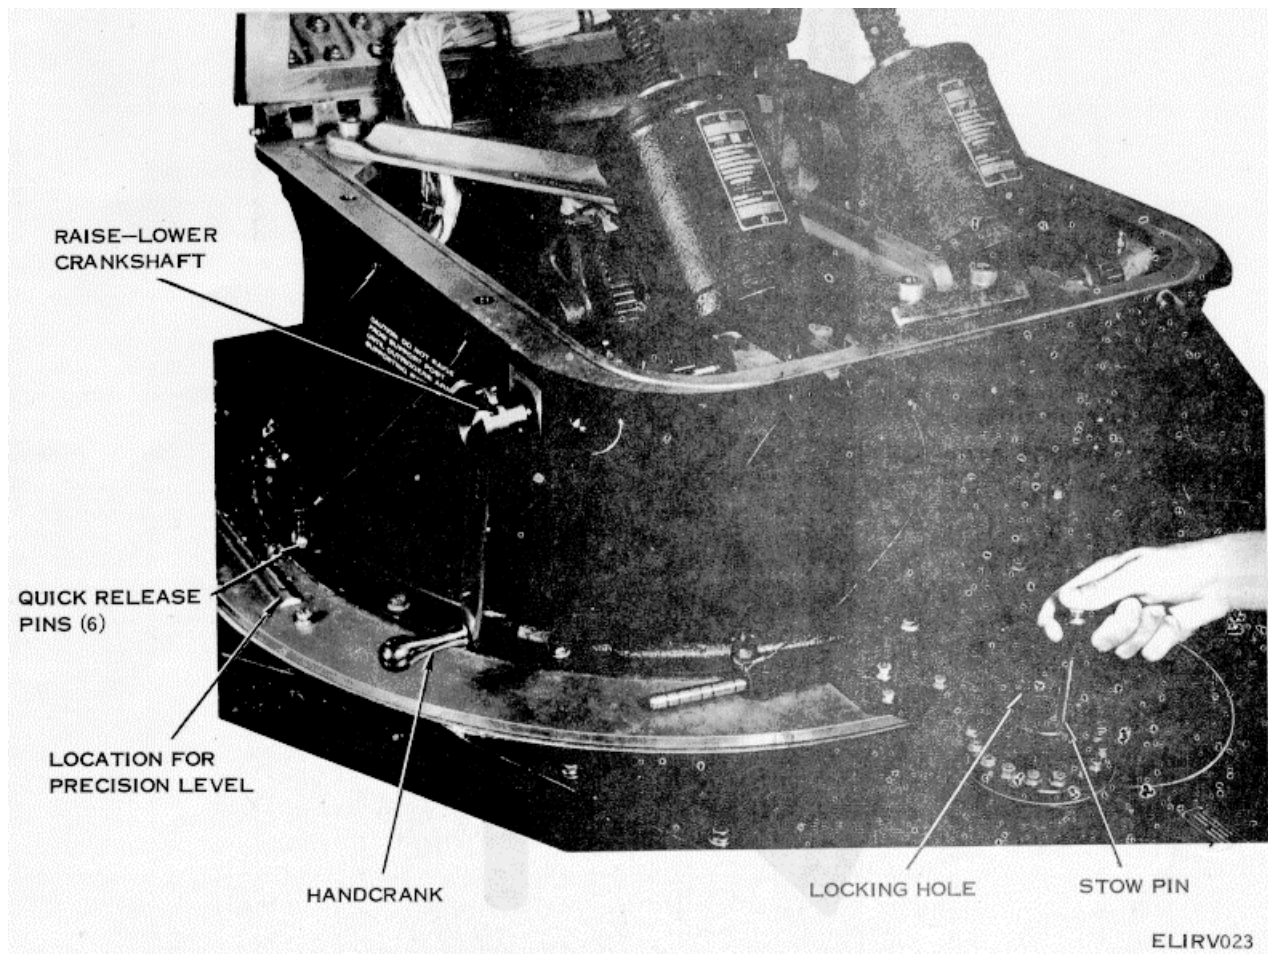

Figure 2-9. Mast mating.
pedestal base plate (fig. 2-9). Never attempt to level the antenna while the earth anchors are securely tightened.
g. Be sure that the electric drill is rotating properly for raising the antenna mast, then place the socket end of the electric drill adapter onto the RAISE-LOWER crankshaft (fig. 2-9).